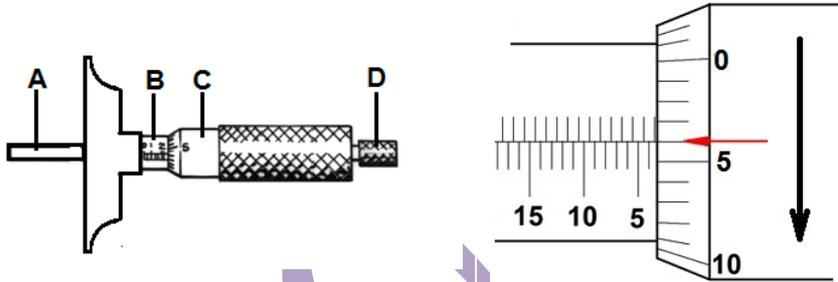

FIGURE 1
2.1 FIGURE 1 below gives an indication of a type of micrometer that is used as a measuring instrument in industry. Answer only the following questions:
- 2.1.3 State the reading on the micrometer in FIGURE 1. (2)